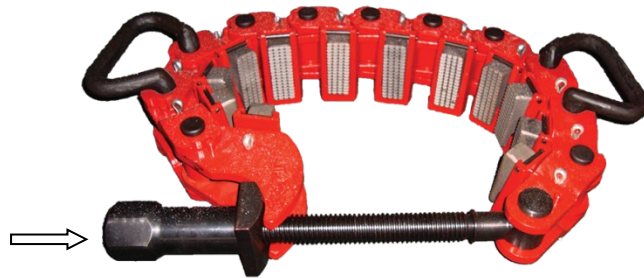
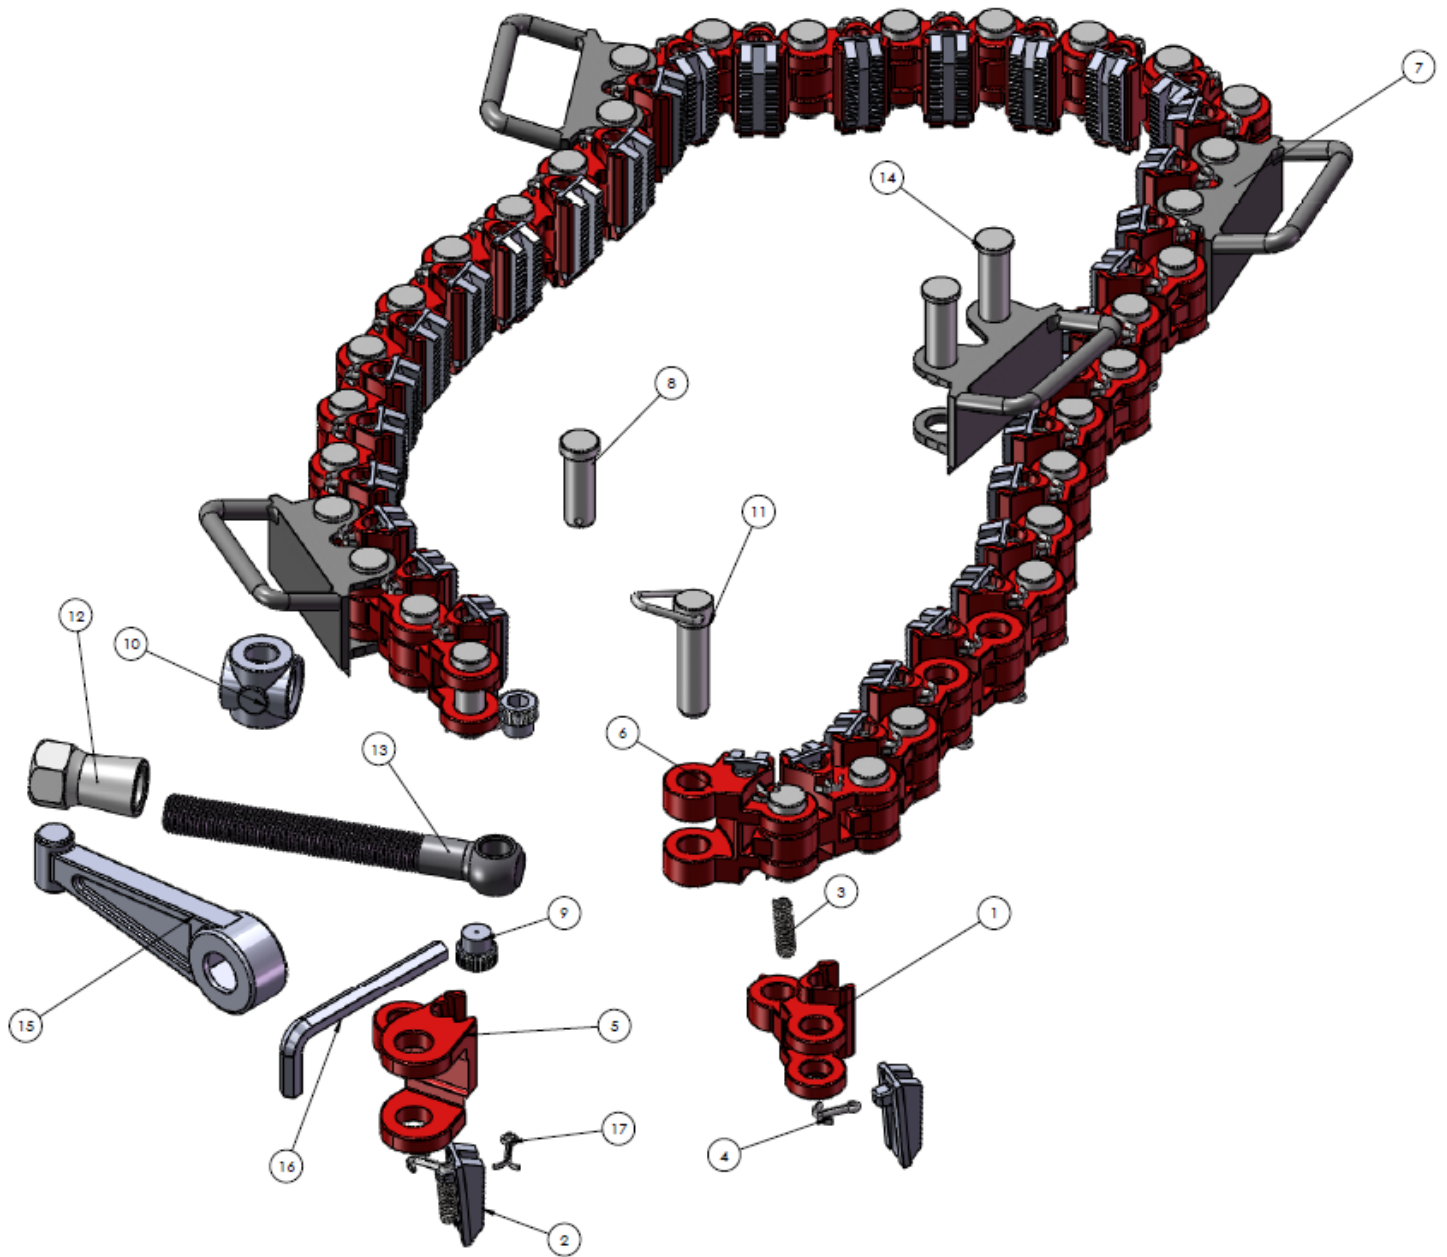

Figure 2: MP nut
Figure 12 – Type C safety clamp
To open the T and C type clamp, pull the hinge (T) pin (shown in Figure 12 - Item # 11). On the MP, loosen the nut (marked by arrow in Figure 2), releasing tension so it can swing open. Holding the handles, wrap the clamp around the pipe like a belt. Insert pin or on MP, push the screw back into the screw latch link segment, turning the nut to tighten. Use wrench to torque nut. The end user determines the clamping torque necessary to prevent marking/damaging tubular.
Clamps can be shortened and lengthened depending on tubular size used. Clamps are tested before shipment at the largest size range. TIOT recommends removing or adding intermediate links starting from the center of the clamp. Begin by removing cotter pin (item 17 on Figure 12) from intermediate link pin (item 8 on Figure 12). Remove as many pins and links as necessary to shorten, or to lengthen, add pins and links. To add inserts, install spring first, then slide insert into slot compressing spring, and install cotter pin to hold spring/insert.